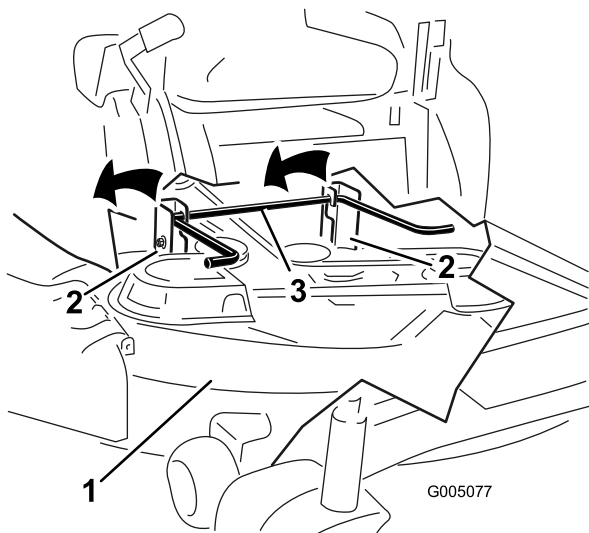
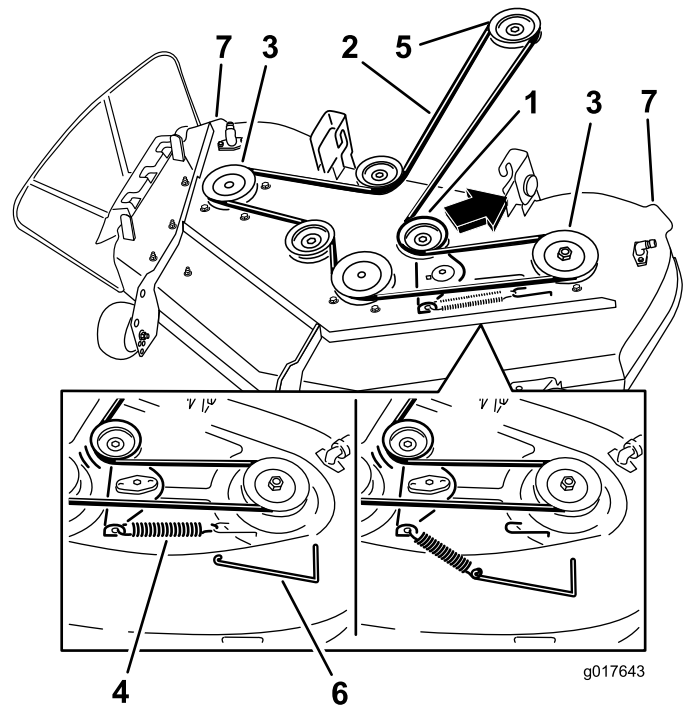

Figure 65
Figure 66
5. Using the mower deck handles, lift the mower deck and hanger brackets clear of the rear lift rod and lower the mower carefully to the ground (Figure 65 and Figure 66).
4. Using a spring removal tool, (Toro part no. 92-5771), remove the idler spring from the deck hook to remove tension on the idler pulley and roll the belt off of the pulleys (Figure 66).
5. Route the new belt around the engine pulley and mower pulleys (Figure 66).
6. Using a spring removal tool, (Toro part no. 92-5771), install the idler spring over the deck hook and placing tension on the idler pulley and mower belt (Figure 66).
5. Lift the rear of the mower deck and guide the hanger brackets over the rear lift rod (Figure 65).